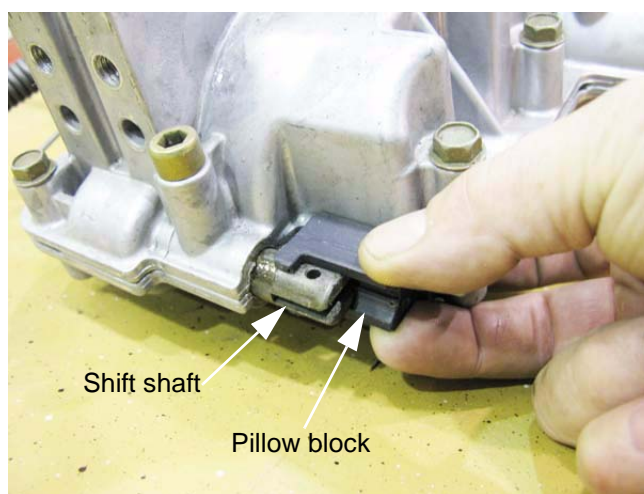

Figure 5.59
3. Slide the shift-shaft pillow block off of the shift shaft. See Figure 5.59.